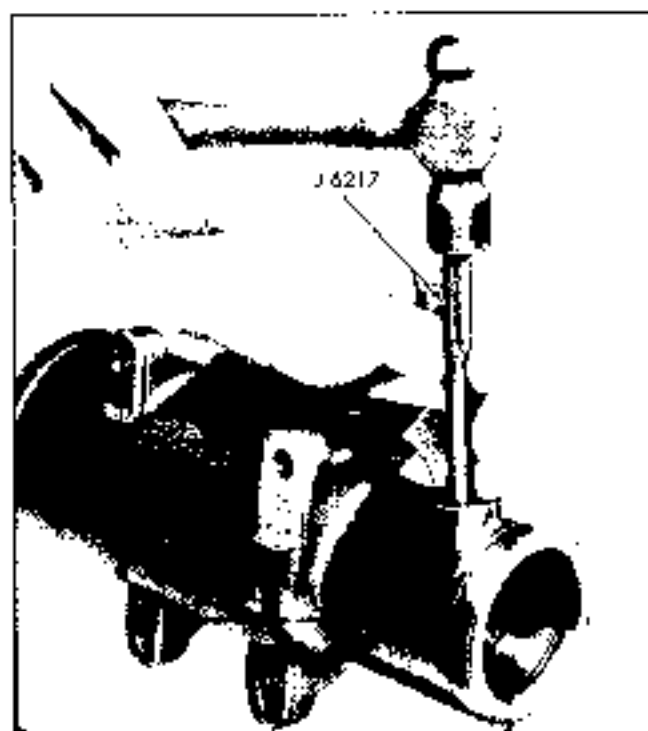

Fig. 9-63 Installing Connector Using J 6217
4. If connectors were removed, install new connectors by driving into place with tool J 6217 (Fig. 9-63).